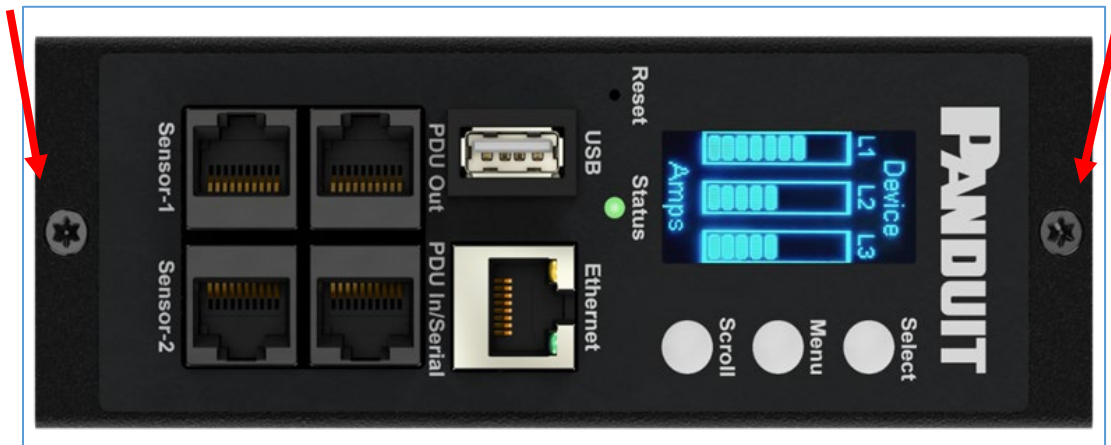

Figure 98: Screws on Network Controller
1. Use a T10 Torx screwdriver on the screws as shown in Figure 98. The screws are held in with retaining washers.